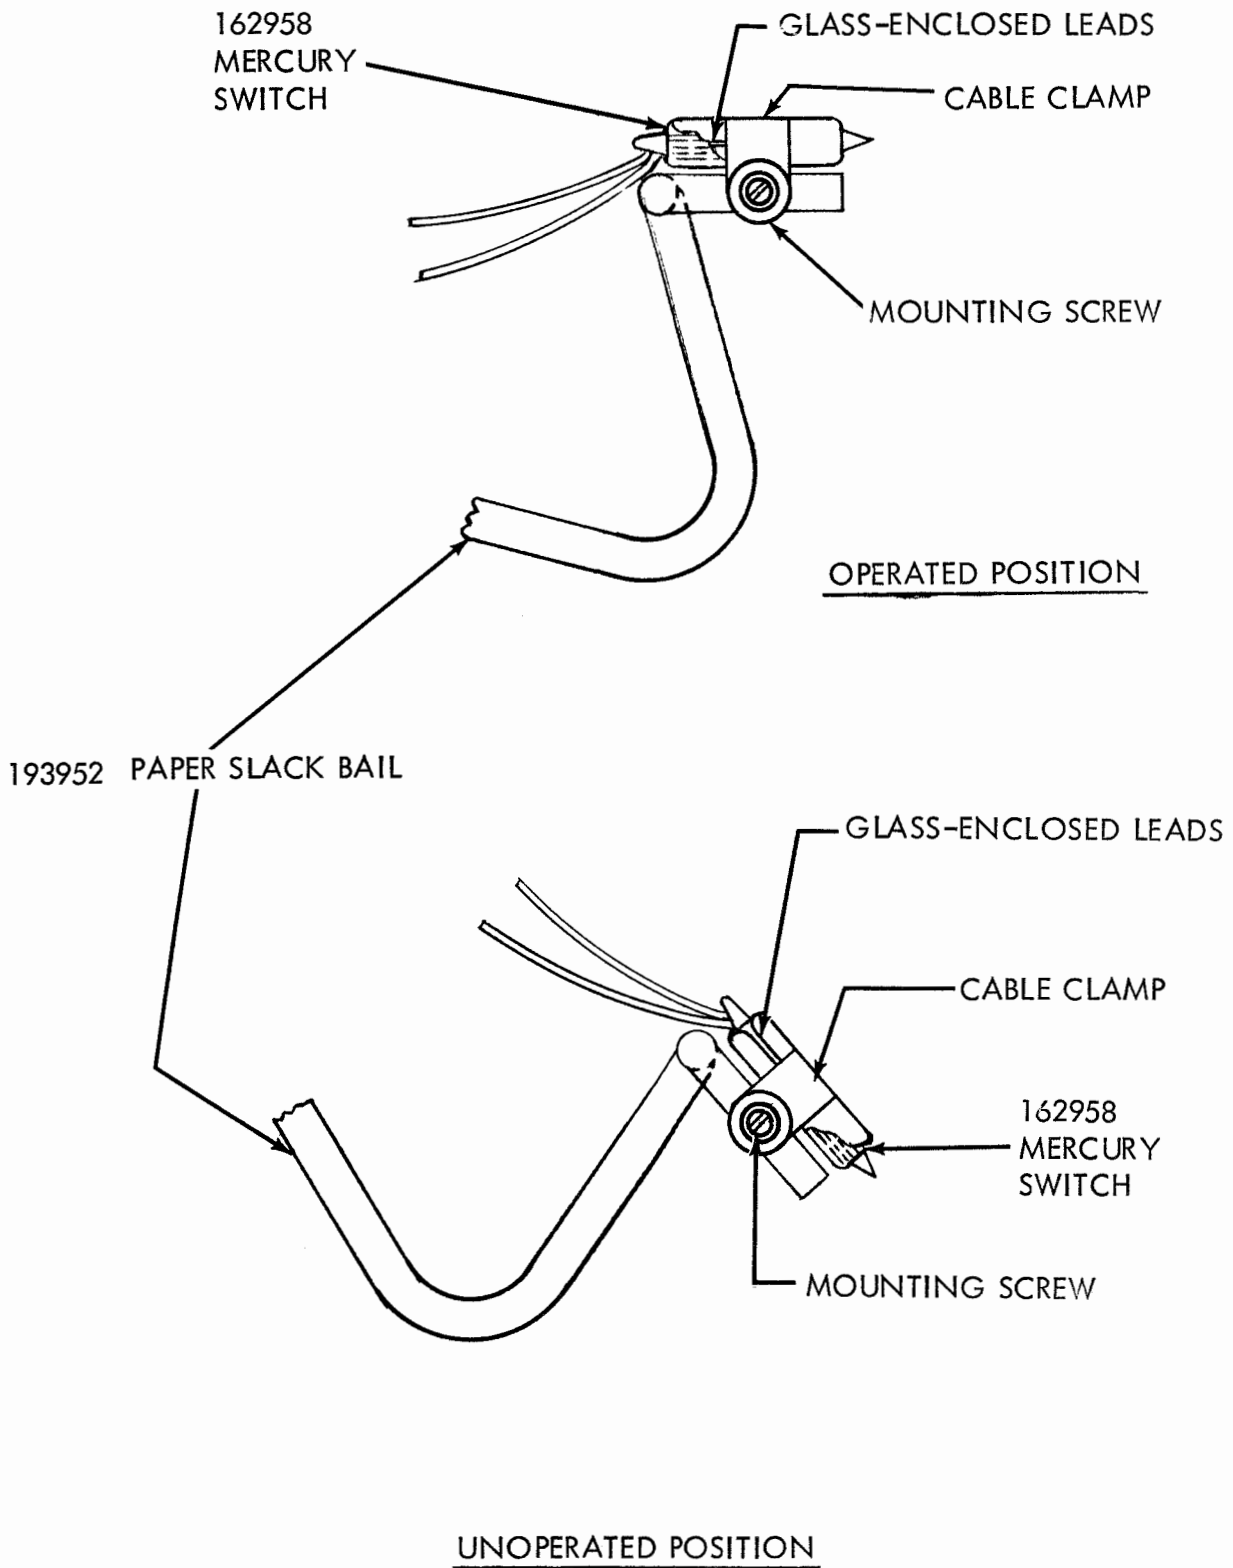

FIGURE 5. OPERATION OF THE MERCURY SWITCH ON THE LPW300** PAPER WINDER
4. SERVICING (Figure 5)
To adjust, loosen the switch mounting screw and position the switch. See Figures 5 and 6.